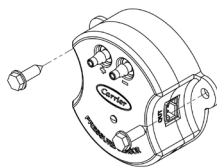

Figure 1
1. Mount the Differential Pressure Sensor using two #8-1.5” self-tapping screws as shown in Figure 1. The transmitter is factory-calibrated and must be installed vertically with the air inlet nozzles pointing perpendicular to the duct. To adjust the zero, both pressure ports must be open to the atmosphere.